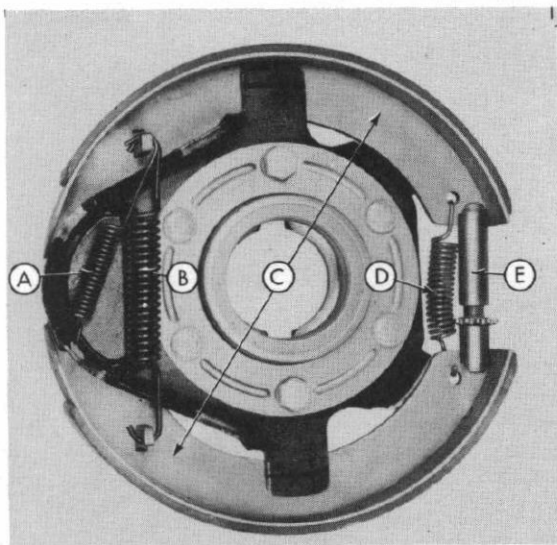

Fig. 1
Step 2—Remove the brake shoe retracting spring (B-Figure 1) and the secondary spring (A-Figure 1).
Step 3—Remove the brake shoes (C-Figure 1).
Step 4—Remove the adjusting spring (D-Figure 1) and the adjusting screw assembly (E-Figure 1).